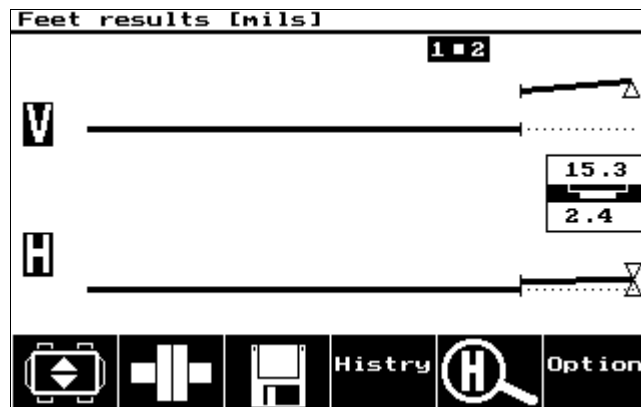

Figure 3
- 12) Press the  softkey (if necessary) to display both vertical and horizontal foot position results.) See Figure 3.